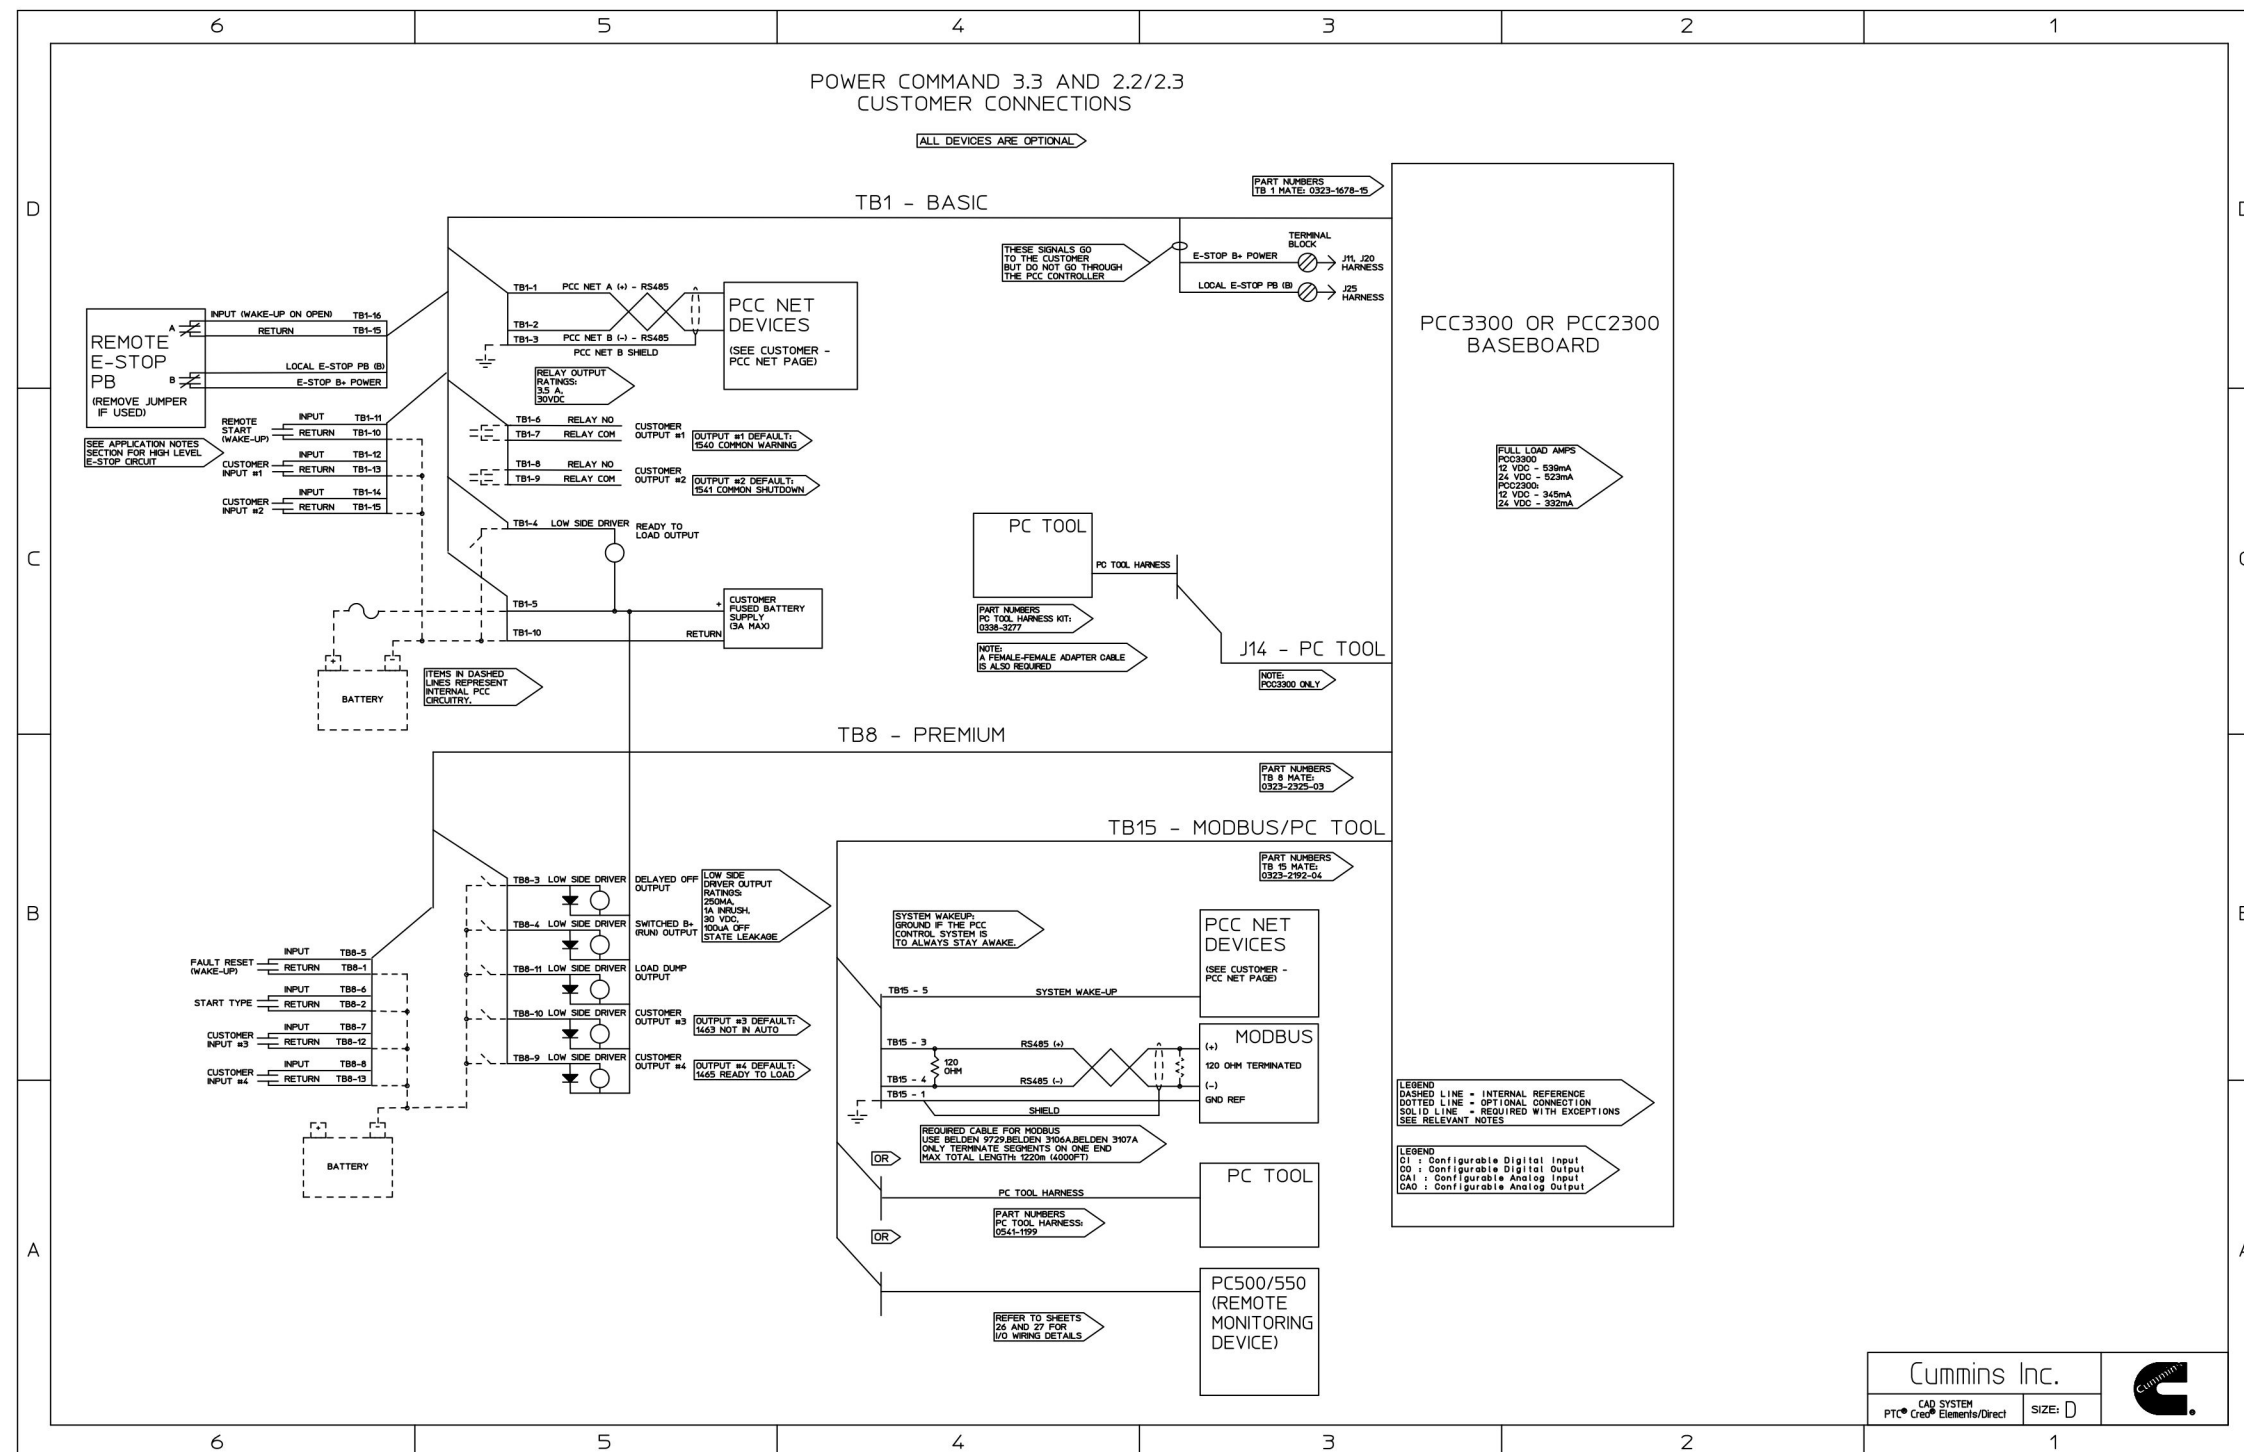

FIGURE 102. CUSTOMER CONNECTIONS
- Figure 102. Customer Connections 406